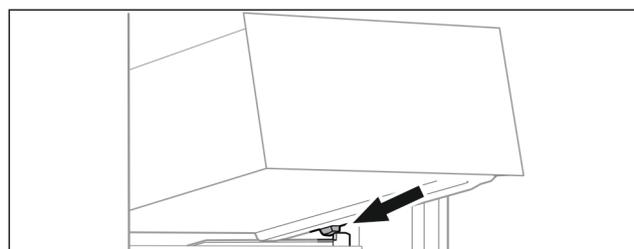

Fig. 22
- ▶ Place drawer on the moulded ribs behind the stoppers with the drawer tilted up at the front Fig. 22 ().